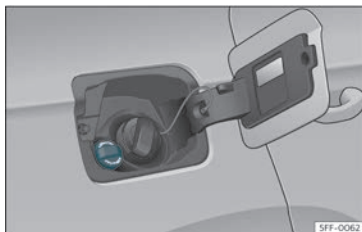

Fig. 199 AdBlue tank cap.
- Open the tank cover»» Fig. 199.
- Turn the SCR tank cap anti-clockwise >>> **Fig. 199**.